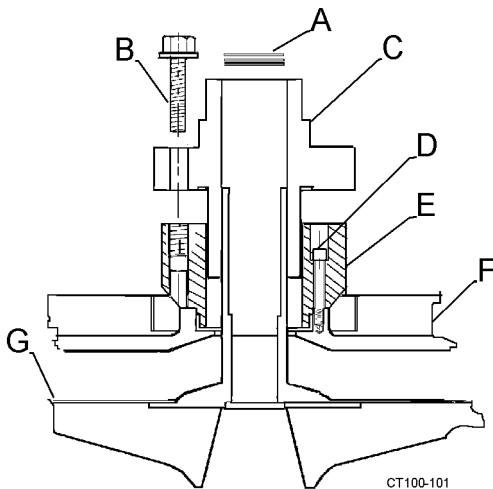
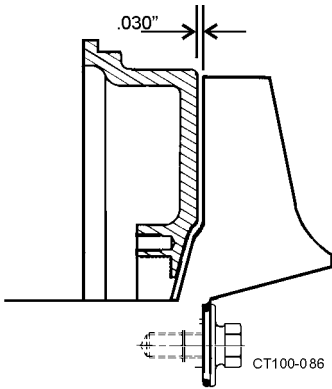

Figure 54 - Remove Seal Assembly.
Figure 55 - Clearance Between Impeller and Backplate
NOTE: The clearance shims that position the impeller within the casing are at the end of the impeller hub (inside the seal.) Keep the shims together as a set for reassembly (Figure 54).
5. Remove the cap screws (Figure 54, item B) holding the cartridge seal to the seal adapter (Figure 54, items C and E).
7. Pull the seal from the seal adapter. (Figure 54, items C and E)
8. Remove the seal adapter by removing the socket head cap screws (Figure 54, item D) holding the adapter to the backplate.
2. Check the impeller/backplate clearance with the backplate held firmly in position against the motor adapter. Check the space between the back of the impeller and the backplate with a feeler gauge (0.030" nominal) while holding the backplate tight against the bearing housing flange. Any axial movement of the shaft should not be added to the 0.030" nominal clearance (Figure 55). If needed, change this clearance by adding or removing shims. Shims (Figure 54, item A) are added on the drive shaft behind the impeller shaft (Figure 54, item G).